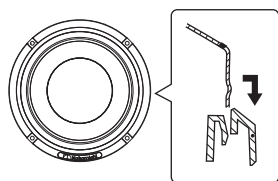

Fig.3
6. Remove the grille net. (Fig.3)